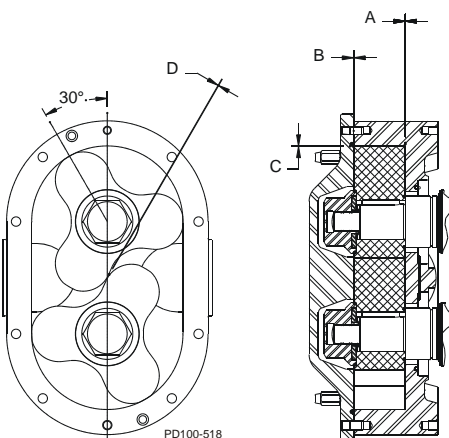

Figure 54 - Measure Clearance
9. Measure the rotor backface clearance (Figure 54, item A) through the port or from the front. For optimum pump operation, the backface clearance for both rotors must be the same and must be  $\pm 0.0005$ " of the value found in Table 8, "Standard Rotor Clearance," on page 39.
10. Check the rotor front face clearance (Figure 54, item B).
11. Check the rotor to body clearance (Figure 54, item C).